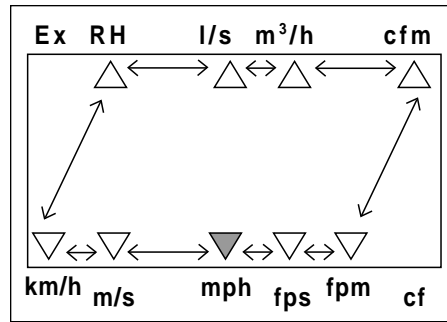

Fig. 15—Display with annunciator and units of measure.
- The display annunciator ▲ will move to the selected unit. (Fig. 15)